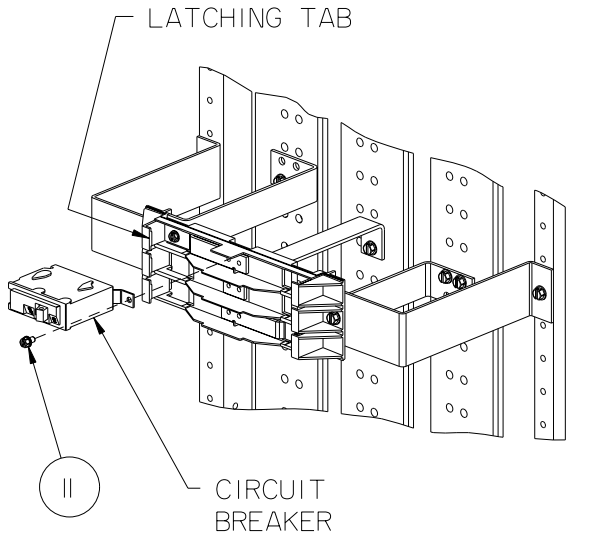

Figure 7
- 8. Reference figs. 7 and 8 - Installing a BL/BQD Circuit Breaker. Position a BL or BQD type breaker so that the notch in the breaker's shell engages the uppermost latching tab on the left side of the Top Barrier. Insert a 10-24 X 3/32 screw (item 11) into the 0.20" diameter hole in the metal contact of the circuit breaker and rotate the breaker to insert the 10-24 X 3/32 screw into the hole in the Branch Connector. This step can be repeated or mirrored for additional circuit breakers. Torque all hardware as specified on the rear of the deadfront.